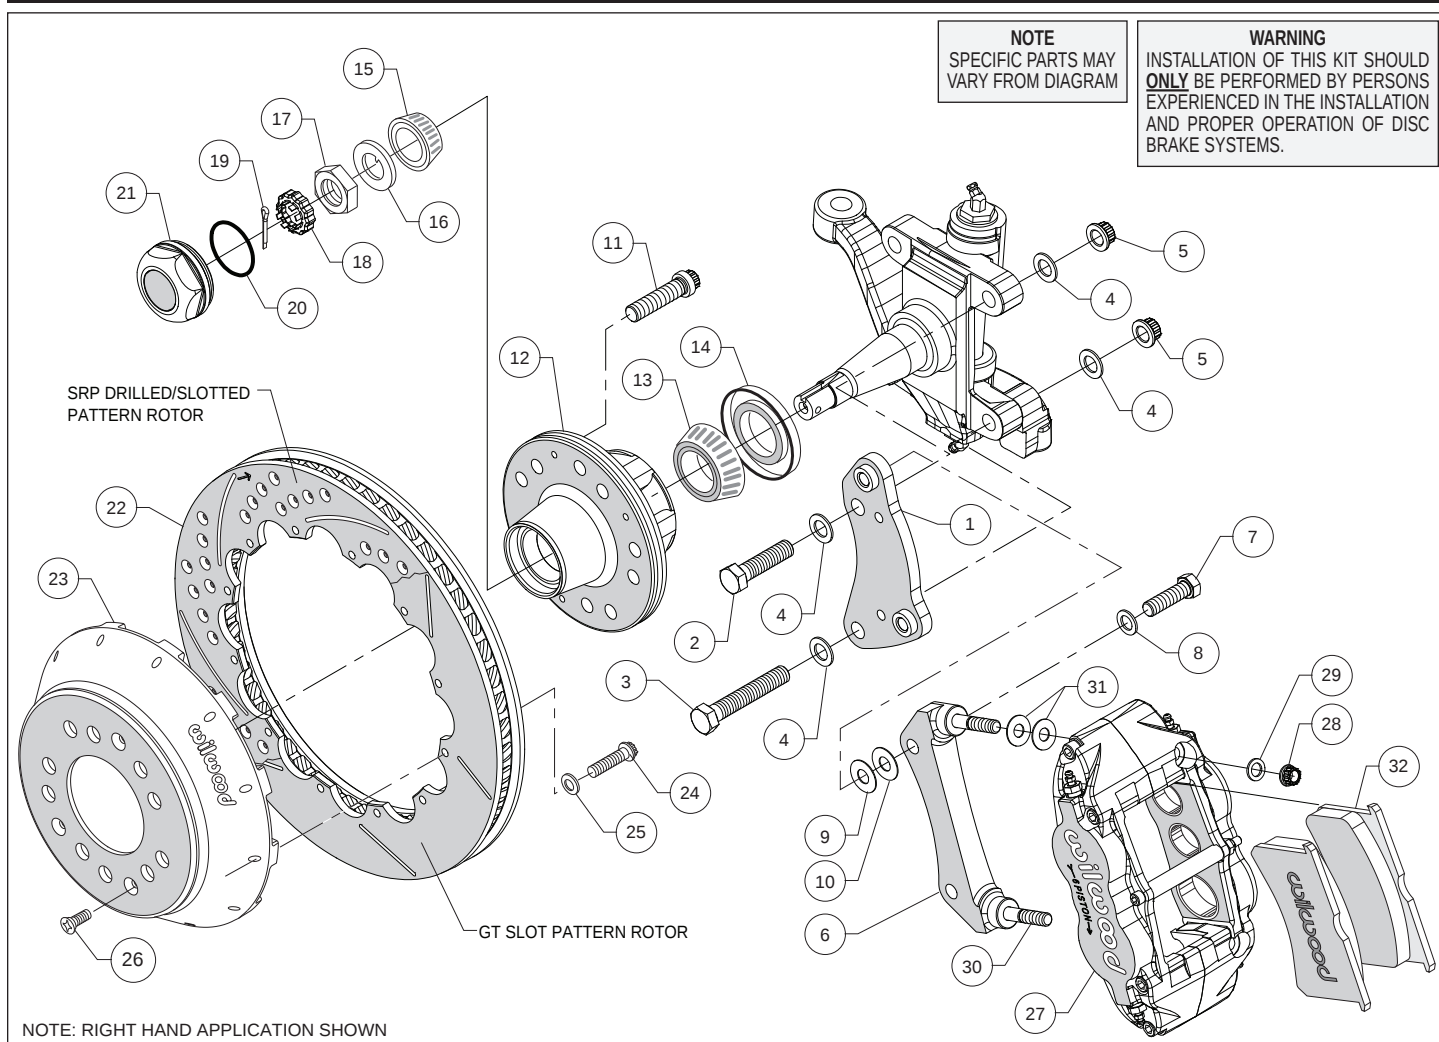
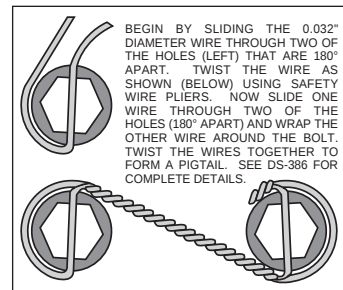
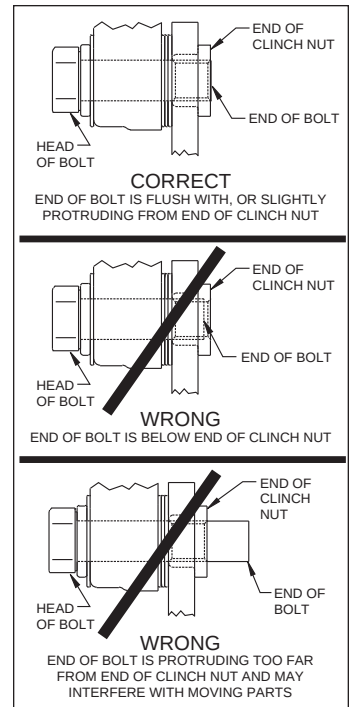

Figure 1. Typical Installation Configuration
Figure 3. Safety Wire Diagram
Figure 4. Clinch Nut Engagement Diagram
Assembly Instructions (numbers in parenthesis refer to the parts list, on the preceding page and Figure 1). **CAUTION:** All mounting bolts must fully engage clinch nuts. Be sure to check that all bolts are either flush or protruding through flanged side of clinch nut after shimming, Figure 4.
- Orient the spindle bracket (1) as shown in Figure 1 and Photo 1, and install using bolts (2 and 3), washers (4) and nuts (5). Temporarily tighten the mounting bolts. Ensure that the flanged heads of the clinch nuts in the bracket are facing outboard, Photo 1. **NOTE:** The bracket must fit squarely against the mount bosses on the upright. Inspect for interference from casting irregularities, machining ridges, burrs, etc. Torque lock nuts (5) to 65 ft-lb.
- The caliper mount radial bracket (6) should initially be installed with clean, dry threads on the mounting bolts. Orient the bracket as shown in Figure 1, and Photo 2. Install onto the spindle bracket using bolts (7), and washers (8). Initially place one .030 thick shims (9) on each bolt between the radial and spindle brackets, Figure 1. Temporarily tighten the mounting bolts. Later, after the caliper alignment has been checked, the mount bolts will be secured using red *Loctite*® 271.
- Screw dust cap (21) into hub (12), Photo 8. Friction created by the o-ring (20) on the dust cap keeps it from unscrewing. **NOTE:** *The O.D. of the existing OEM spindle washer may be larger than the I.D. of the dust cap not allowing it to seat against the hub face. Therefore, use the spindle washer (16) supplied with the kit instead of the OEM washer.*
- Orient the rotor (22) and the hat (23) as shown in Figure 1 and Photo 9. Attach rotor to hat using bolts (24) and washers (25). Using an alternating sequence, apply red *Loctite*® 271 to the threads, and torque to 155 in-lbs. For an added measure of security, the bolts may be safety wired using standard 0.032 inch diameter stainless steel safety wire as shown in Figure 3. Refer to Wilwood's data sheet DS-386 (available at www.wilwood.com/Pdf/DataSheets/ds386.pdf) for complete safety wire installation instructions.
- NOTE:** *This kit contains distinct right and left hand calipers that must be mounted in a specific direction, as described below.* Lubricate the caliper mounting studs (30) with lightweight oil. Initially place two .035" thick shims (31) on each stud between the caliper and the bracket, as shown in Figure 1 and Photo 11. Mount the caliper (27) onto the bracket (6) using lock nuts (28) and washers (29), Figure 1. Ensure that the caliper is mounted so the largest pistons are at the rotor exit end of the caliper, in relation to the direction of rotor rotation. Temporarily tighten the lock nuts and view the rotor through the top opening of the caliper. The rotor should be centered in the caliper, Photo 12. If not, adjust by adding or subtracting shims (9 and/or 10) between the spindle bracket (1) and the caliper mount bracket (6). Always